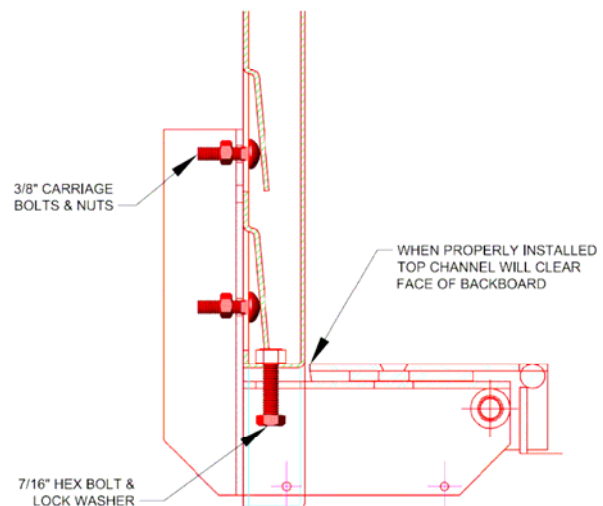

Figure 2
- 4) Install the carriage bolts into the slots in the goal mounting area of the board (See Figure 2).